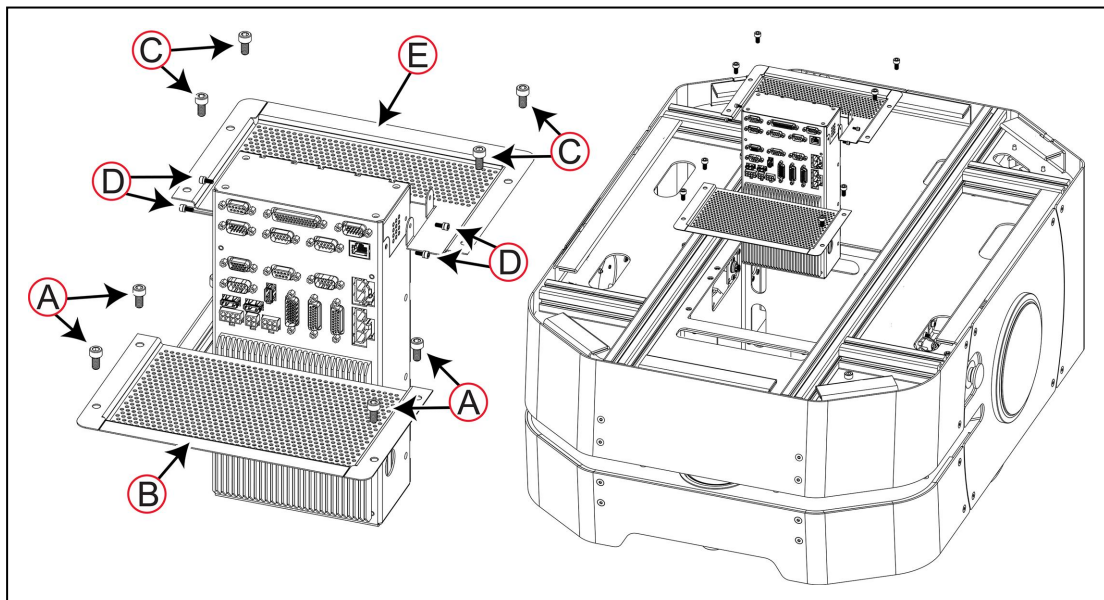

Figure 8-22 LD-250 Core Mounting Brackets and Fasteners
Figure 8-22 shows the mounting brackets and fasteners that you remove to access the LD-250 Core. Retain all fasteners to use when installing the replacement core.
6. Use a 5 mm hex key to remove four 12 mm M6 socket head cap screws (A) and then remove the perforated cover plate [(B) in Figure 8-22].
7. Use a 2.5 mm hex key to remove the four 8 mm M3 socket head cap screws and washers (D) to detach the LD-250 Core from its mounting bracket (E).
8. Use a 5 mm hex key to remove four 12 mm M6 socket head cap screws (C) and then remove the perforated mounting bracket [(E) in Figure 8-22].
3. Use a 2.5 mm hex key to attach the mounting bracket [(E) in Figure 8-22] to the LD-250 Core with four 8 mm M3 socket head cap screws and washers (D).
4. Use a 5 mm hex key to attach the perforated mounting bracket [(E) in Figure 8-22].
5. Use a 5 mm hex key to attach the perforated cover plate [(B) in Figure 8-22] using four 12 mm M6 socket head cap screws (A).